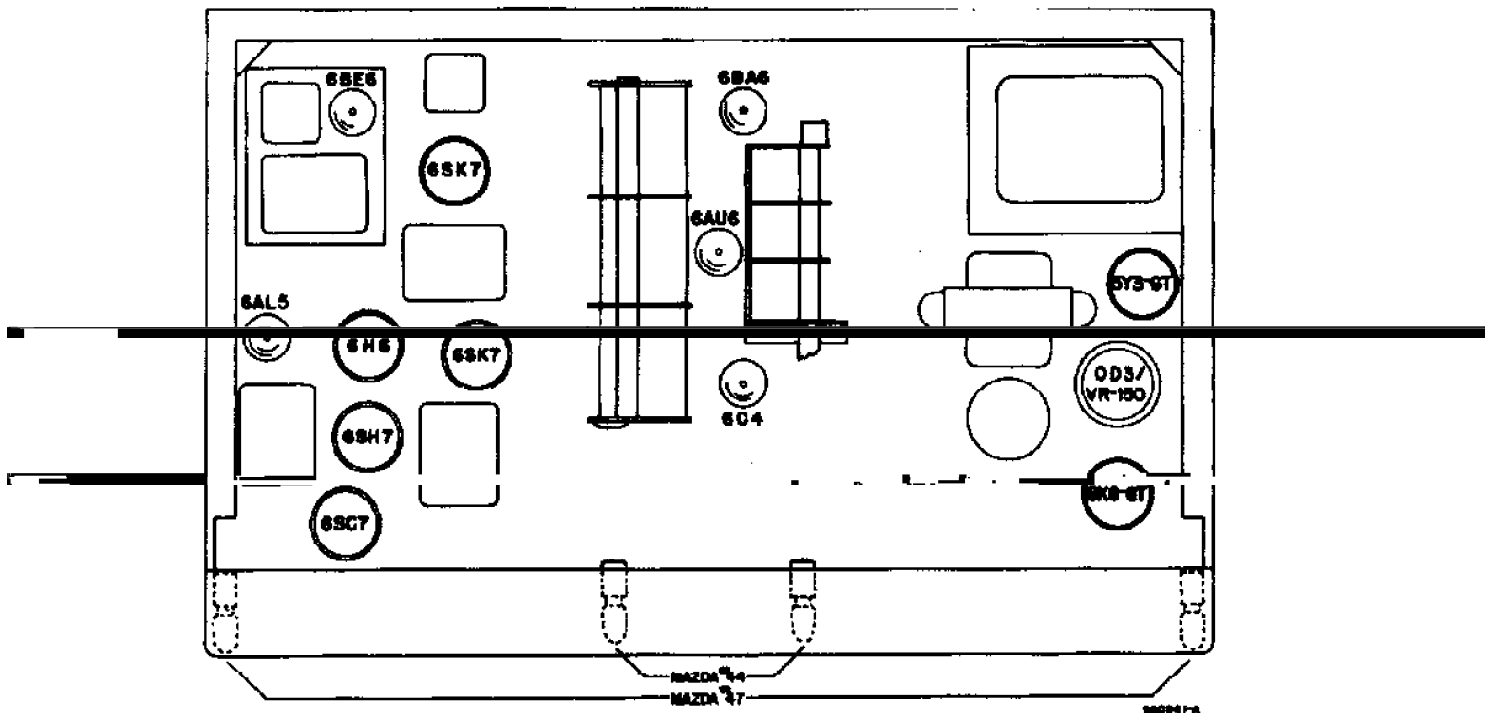

Fig. 8. Top view showing location of tubes and dial lamps.
**TUBE REPLACEMENT** - The types of tubes required and their relative position in the receiver are shown in the illustration, Fig. 8. When installing a replacement tube, insert the center guide pin into the center hole of the tube socket; rotate the tube until the key on the guide pin drops into the notch in the socket hole; push down until the base of the tube rests firmly on the socket. A slightly different technique must be used on the miniature tubes. They have seven small pins which have to be lined up with the socket holes before pushing into place. Handle with care as all tubes are considered fragile and do not tolerate much mechanical abuse.
**DIAL LAMP REPLACEMENT** - Refer to Fig. 8 for the location of the dial lamps in the receiver. Access to defective lamps, may be gained through the top cabinet cover. The two end lamps are fastened by screws to an angle bracket. Remove the screws and change the lamp using a 6-8 V. Mazda #47 (brown bead) or equivalent. To change the two dial lamps in the center, it is necessary to unscrew the two screws holding the sockets in place. These two lamps should be replaced with 6-8 V. Mazda #44 (blue bead) or equivalent.
Refer to Fig. 8 for the location of the dial lamps in the receiver. To gain access to the defective lamps, remove the chassis from the cabinet by removing the screws on the sides and bottom. The two end lamps are fastened by screws to an angle bracket. Remove the screws and change the lamp using a type Mazda #47 (brown bead) or equivalent. To change the two dial lamps in the center, remove the screws holding the sockets in place and replace the lamps using a type Mazda #44 (blue bead) or equivalent.